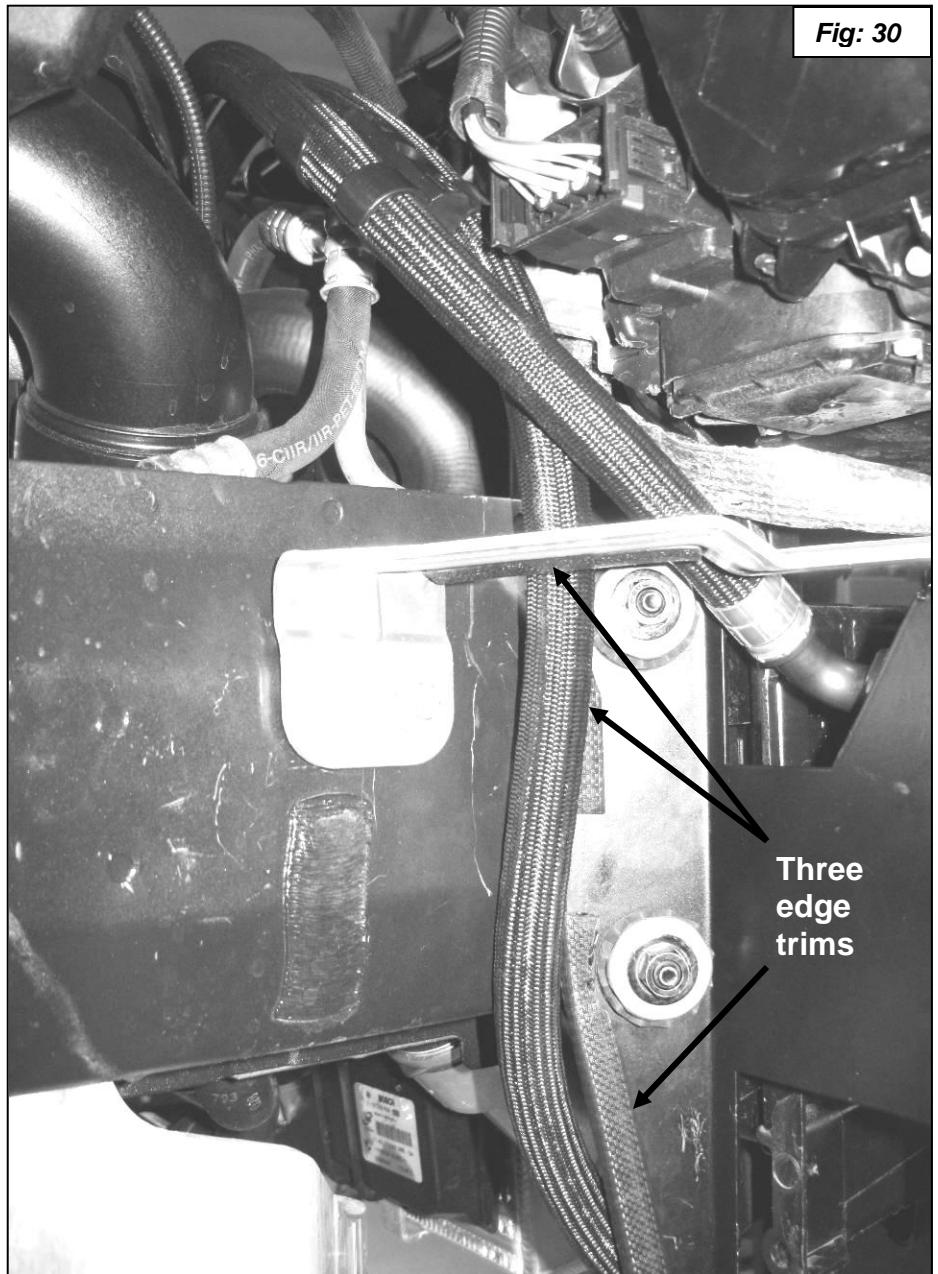

Fig: 30
34. Refer to **figure 30** to see where to install three pieces of edge trim to protect the oil lines where they would otherwise rub on sharp edges. Proceed to the next step before mounting the Cooler Assy.
35. Route the oil line as shown in **figure 30**. Attach the Oil Cooler Assembly to the car as shown previously with the two stock 8mm nuts and the 6mm bolt. Torque nuts to 20Nm (15ft-lbs.) and bolt to 8Nm (6ft-lbs.).